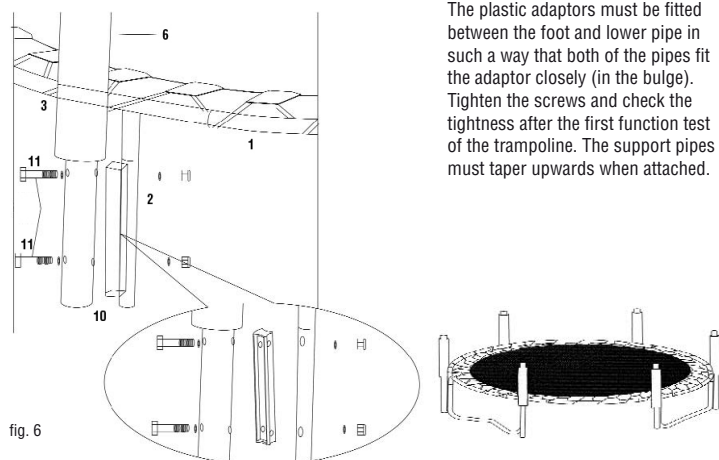

fig. 6
Attach the lower support pipe (2) to the trampoline feet with the aid of the nuts and bolts (12) and the plastic adaptors (11) as shown (fig.6).